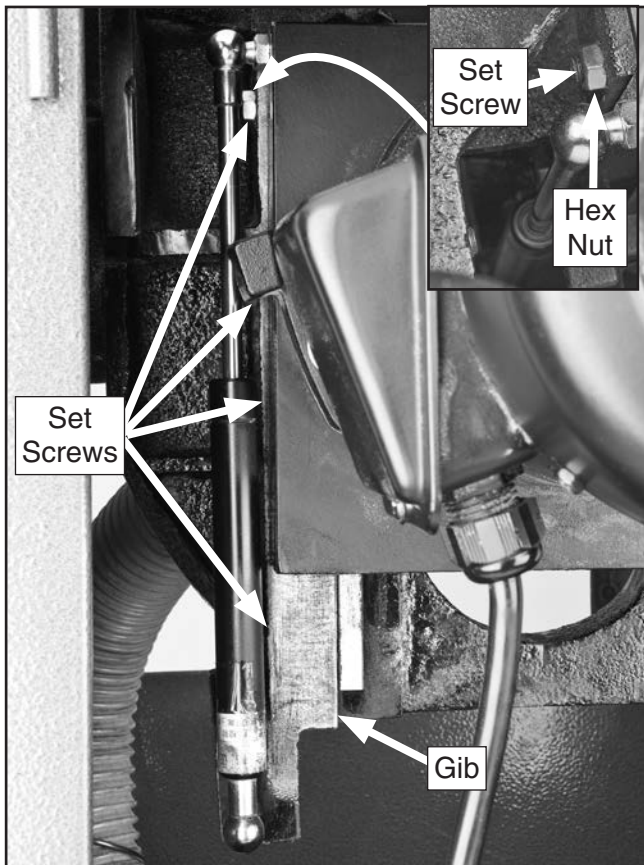

Figure 146. Elevation slide gib components.
Tension is applied to the gib by the four adjustment set screws shown in **Figure 146**.
2. Loosen hex nuts securing (4) adjustment set screws shown in **Figure 146**, then back off each set screw one full turn to release pressure on gib.